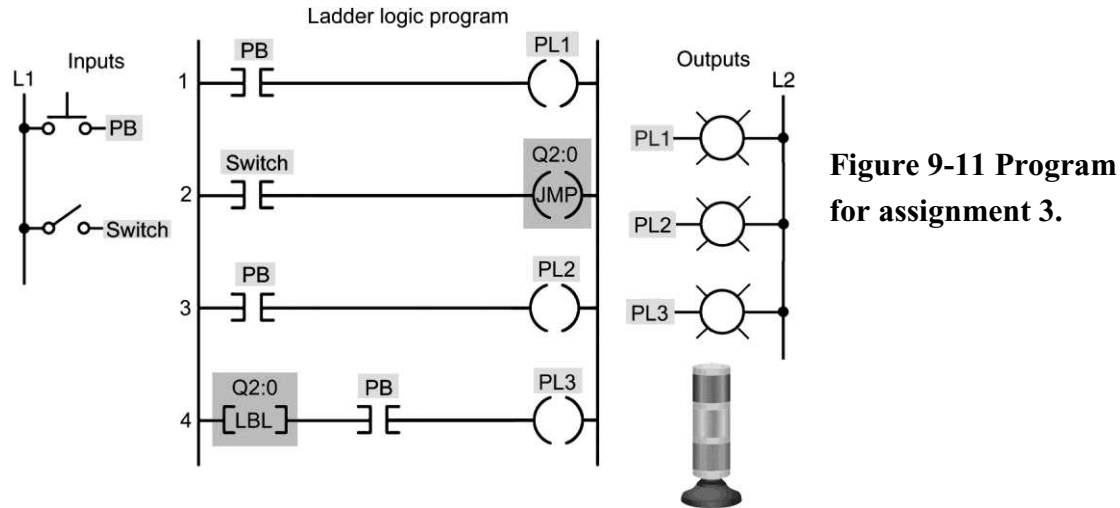

Figure 9-11 Program for assignment 3.
3) Construct a simulated program for the jump-to-label program of Figure 9-11. After constructing your program on paper, enter it into the PLC. Demonstrate how the jump-to-label operation is executed.